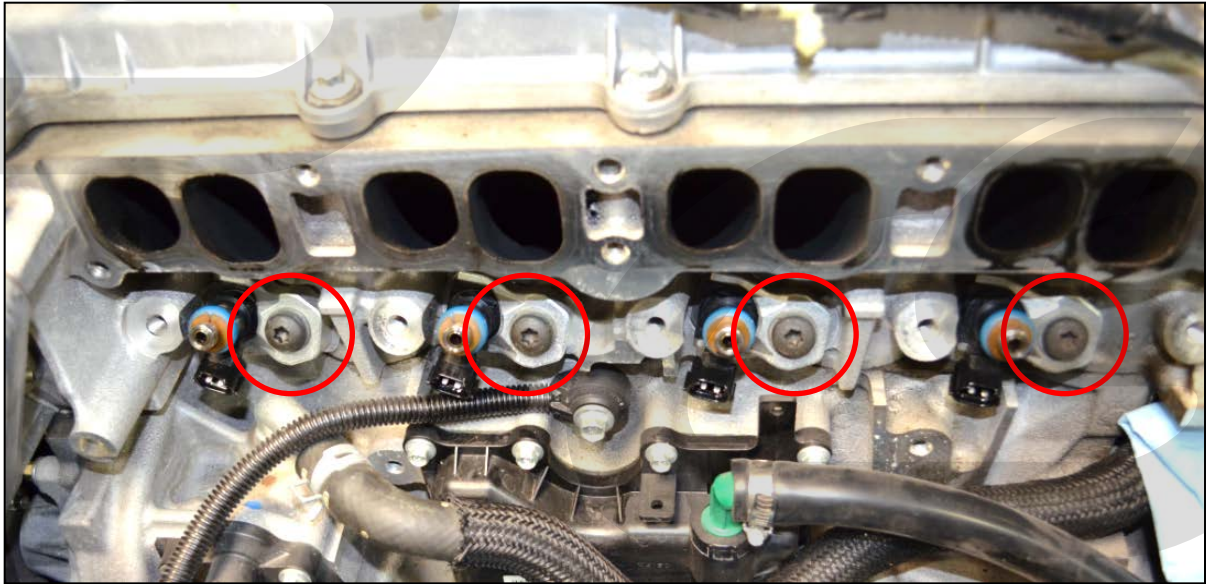

Figure 9a
- b) **Torque the injector clamps to OEM specs.** Use a T-40 torx socket and torque wrench with a 4" extension to torque the bolts to 17-18 ft-lb. **Red circles in Figure 9a.**